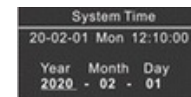

Figure 57
- o Press the Confirm key to enter the System Time Setting page (as shown in Figures 57 to 59).
- o Date and Time Parameters: The scrollable menu includes items 01 to 07, corresponding to year, month, date, week, hour, minute, and second.